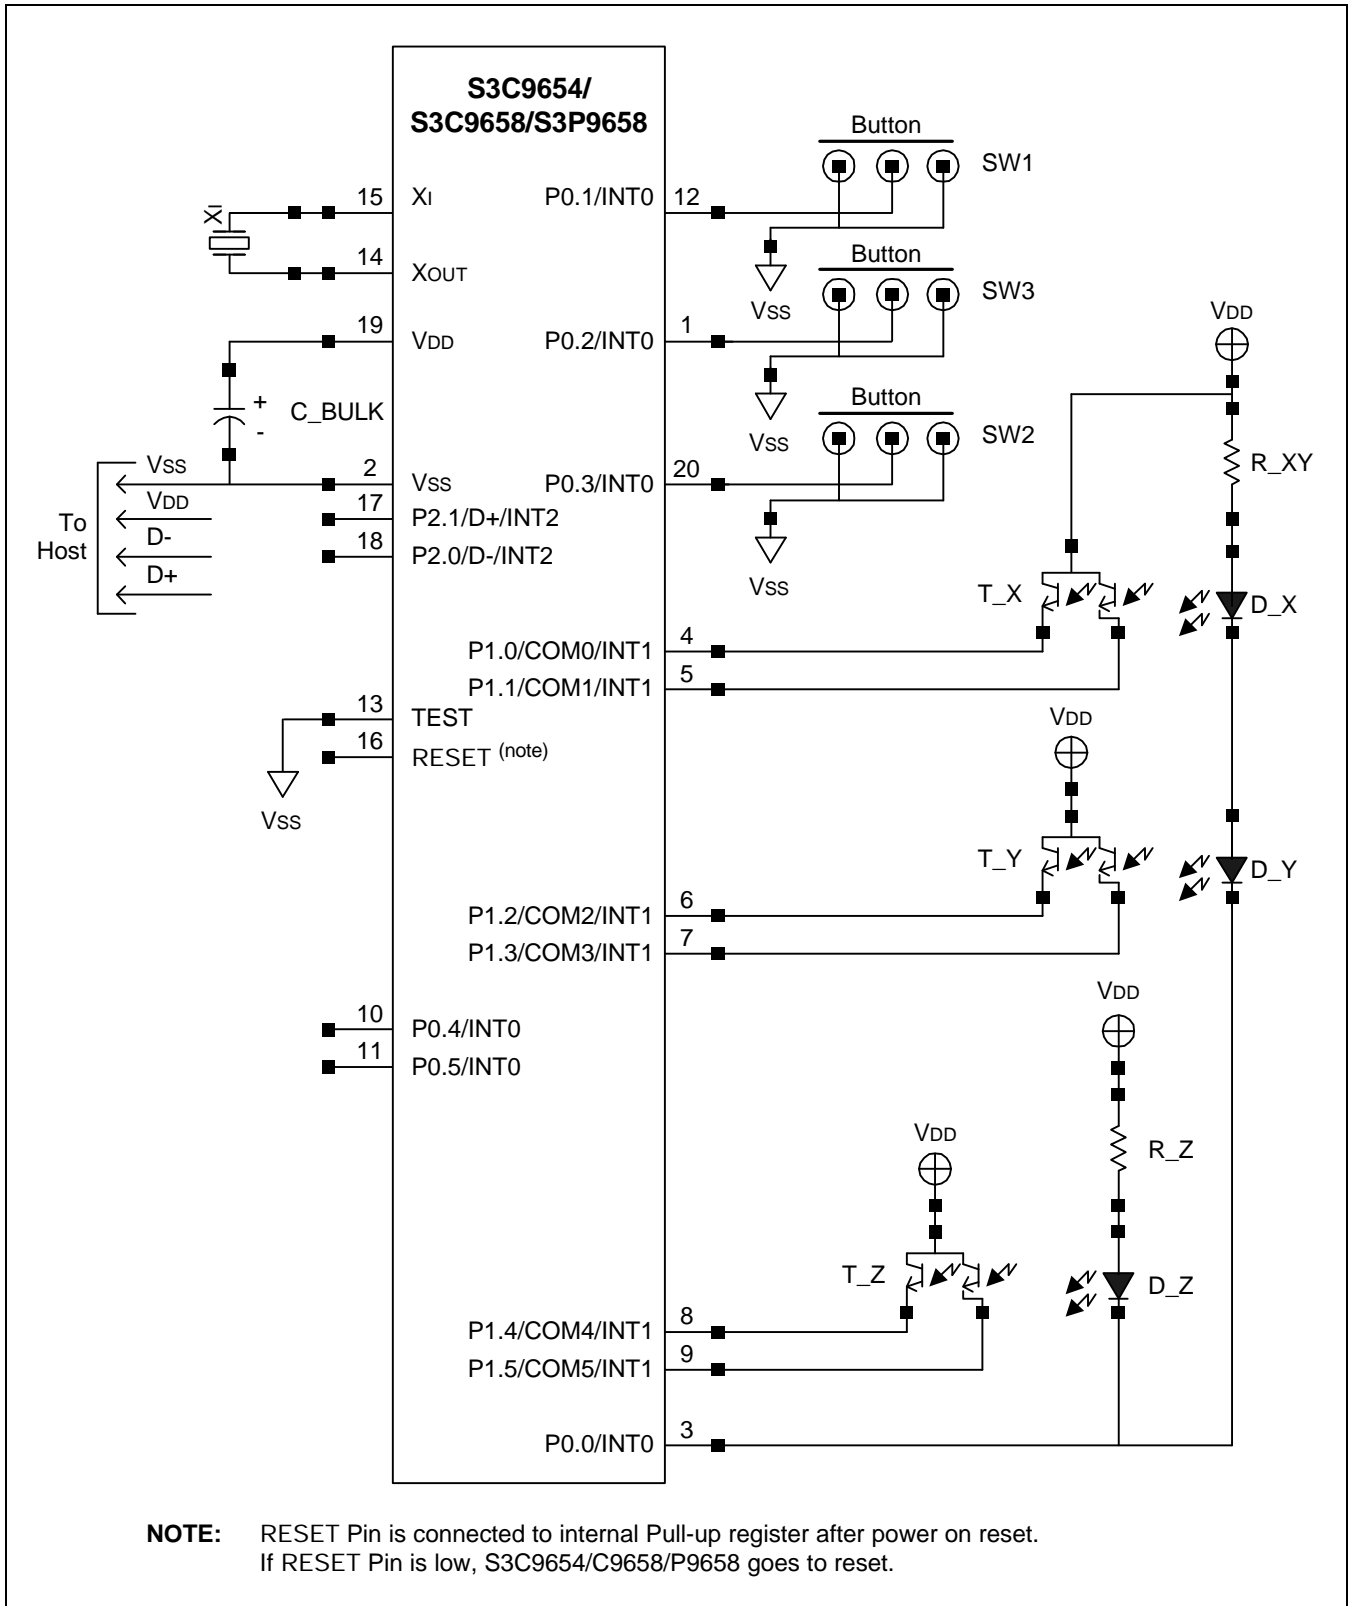

Figure 1-9. USB Mouse Circuit Diagram
4. P0.0 designed for direct LED current sink, see the SNKCON resistor and Figure 1-9 (Page 1-9).